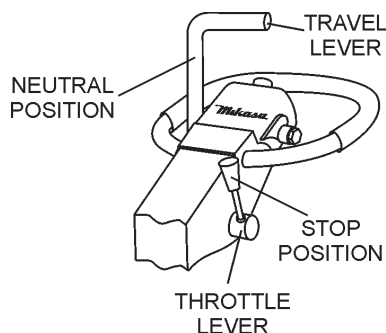

**Figure 21. Travel Lever**
- To make the compactor move in the forward direction push the travel lever ( Figure 21) forward.
- To make the compactor move in the reverse direction pull the travel lever ( Figure 21) backwards.